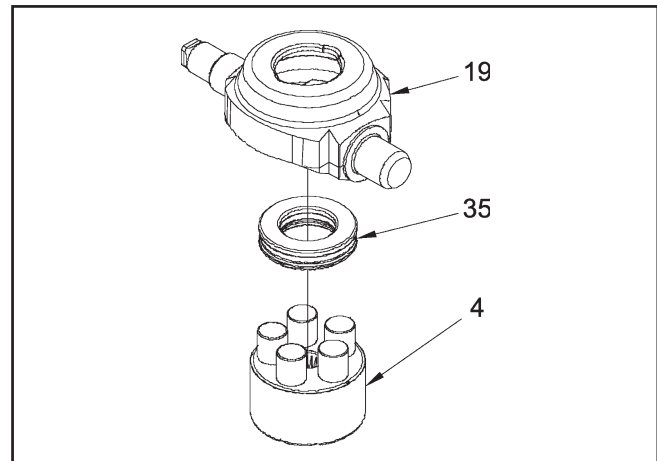

Figure 13.
8. **(See Figure 13)** Disassemble the pump cylinder block (4) from the swashplate (19).
12. **(See Figure 13)** Place the pump block assembly (4), pistons down, on top of the thrust bearing in the swashplate (19).